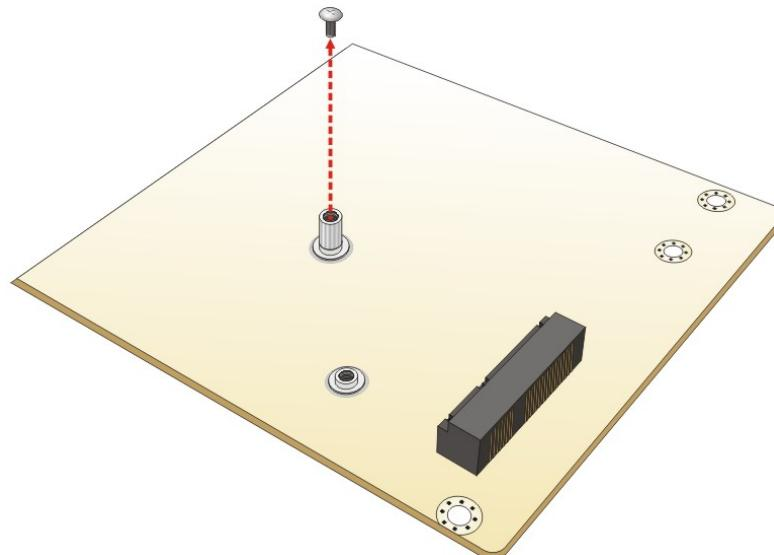

Figure 3-7: Removing the Retention Screw
Step 3: Remove the retention screw as shown in Figure 3-7.
Step 1: Remove the retention screw as shown in Figure 3-7.